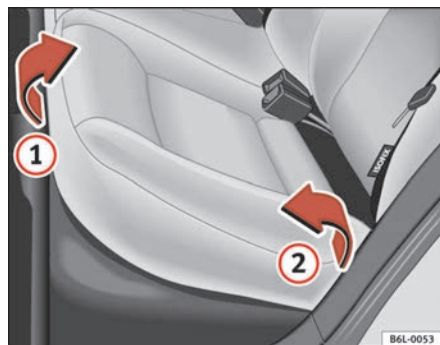
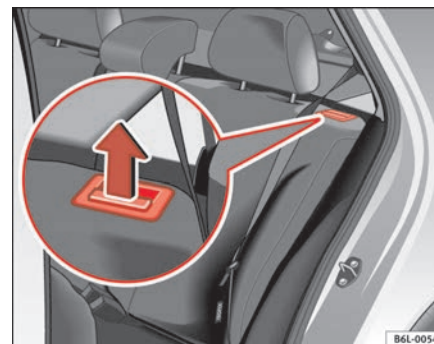

Fig. 77 Folding up the rear seat cushion
Fig. 78 Button for unlocking the rear backrest
- Pull the front edge of the seat cushion ⇒ fig. 77 ① upwards in the direction of the arrow.
- Lift the cushion ② forwards in the direction of the arrow.
- Pull the release button ⇒ fig. 78 in the direction of the arrow and fold the backrest forwards